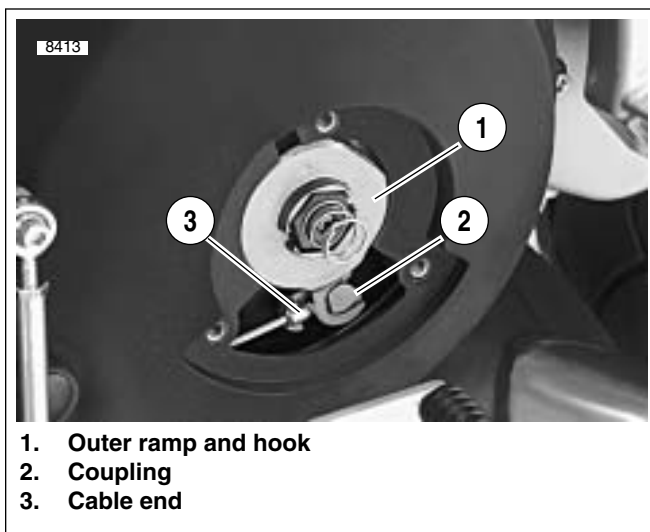

Figure 2-98. Clutch Release Mechanism
15. See Figure 2-98. Remove the outer ramp and hook (1) from the cable end (3) and coupling (2). Remove cable end from slot in coupling. See 6.3 CLUTCH RELEASE MECHANISM.
3. See Figure 2-98. Install cable end into slot in coupling. Install the outer ramp and hook (1) onto the cable end (3) and coupling (2) and place assembly back into the clutch inspection area in the primary cover. See 6.3 CLUTCH RELEASE MECHANISM.